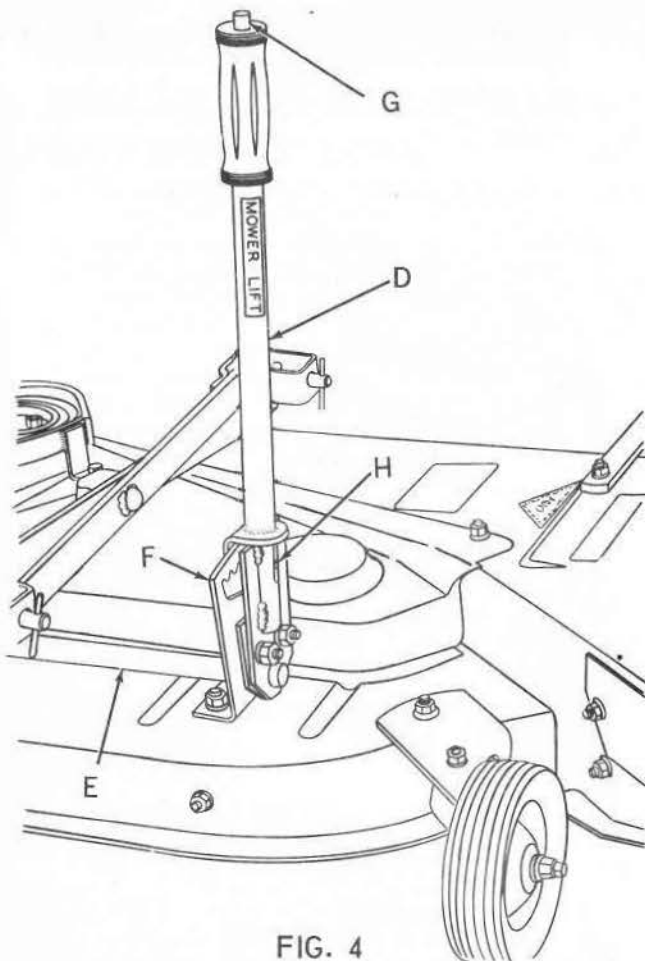

FIG. 4
7. Depress lever plunger (G). Move lever to approximately middle of notched lever bracket (F). Drive roll pin (H), thru lever, notched lever bracket, and lever clip. Refer to Fig. 4.